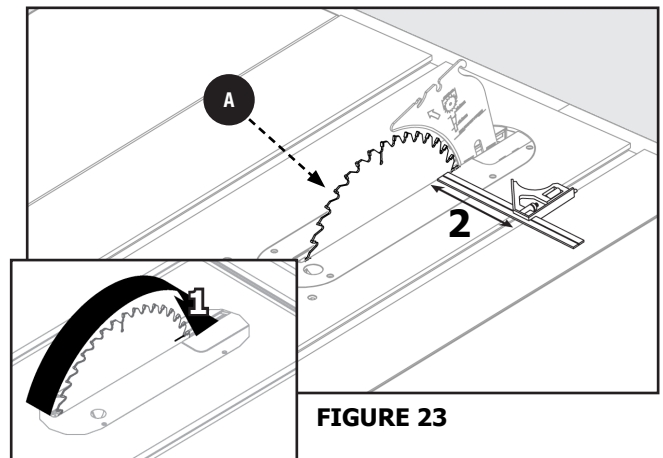

FIGURE 23
2. Turn blade **A** so that marked tooth (1) is at back. Move combination square to the rear and again measure the distance (2). If the distances are the same, blade **A** is parallel. See Figure 23.